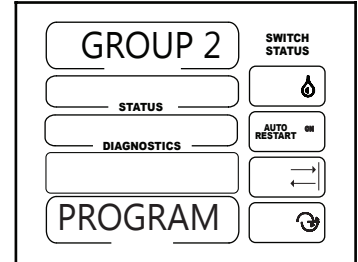

Figure 17-1
2. GROUP 2 will be shown in the display screen. See figure 17-1.